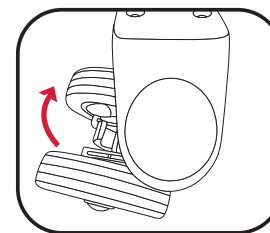

Fig 5
7. Rotate the wheel back 180° so that it sits underneath the housing (fig. 5)